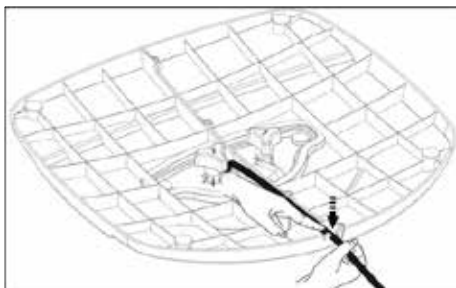

Figure: 3
- Push and insert the power cord to the hole which is located at the back of the base as shown in figure 3.